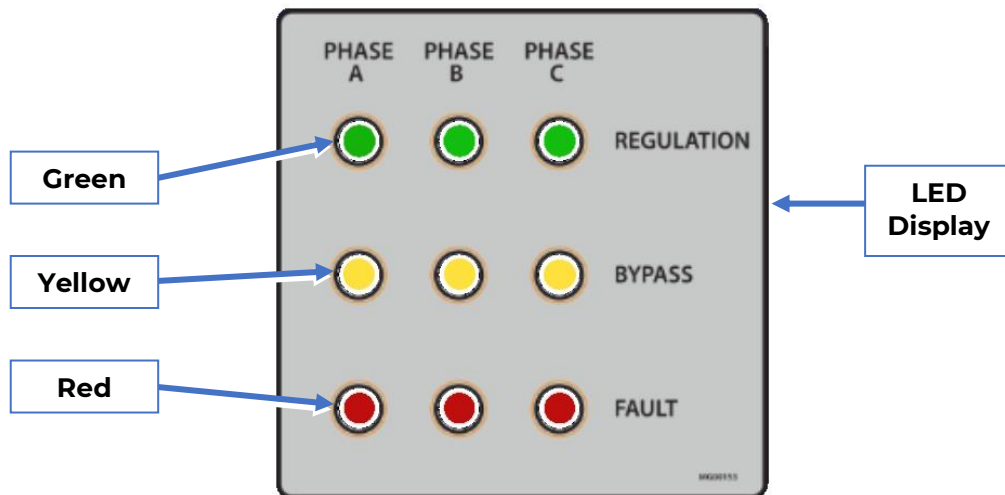

Figure 15: Status Display LEDs
2.5 VRP STATUS INDICATORS – See Figures 15 and 16